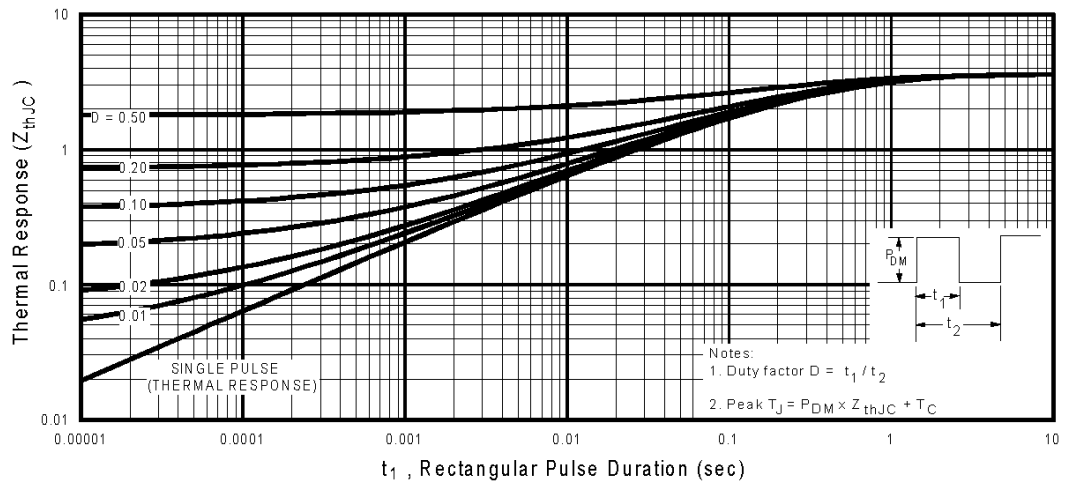

Fig 11. Maximum Effective Transient Thermal Impedance, Junction-to-Case
① Repetitive rating; pulse width limited by max. junction temperature. (See fig. 11)
② Starting $T_J = 25^\circ\text{C}$, $L = 62\text{mH}$